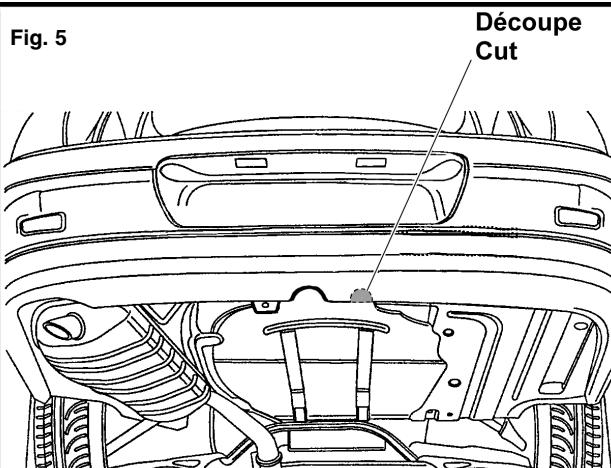

Fig. 5
2. Remove the plastic casing (E), the (F) fixing of bumper, the exhaust rear silencer (H) and the head shield (G). See fig.3. Remove the (I) brackets from the ABS sensor wiring harness. See fig. 4. Place the template in the middle of the bumper on the outside and saw out the indicated section, as shown in fig. 5.